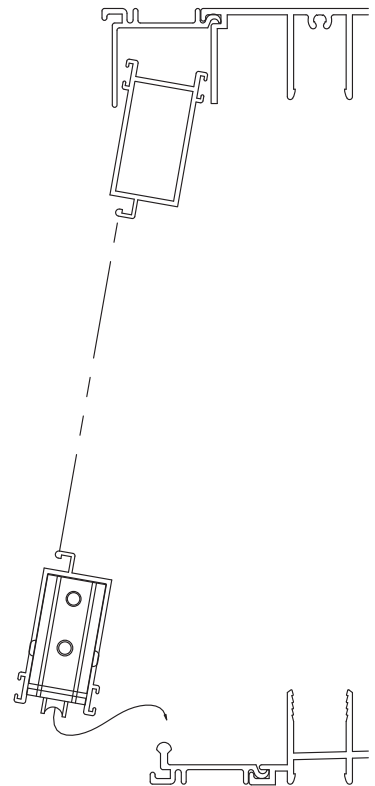

Figure 31
1. Position panel so that top of panel slips into frame header channel. Swing bottom of panel in until bottom of panel is aligned over sill spline and set panel on roller spline. (See Figure 31)